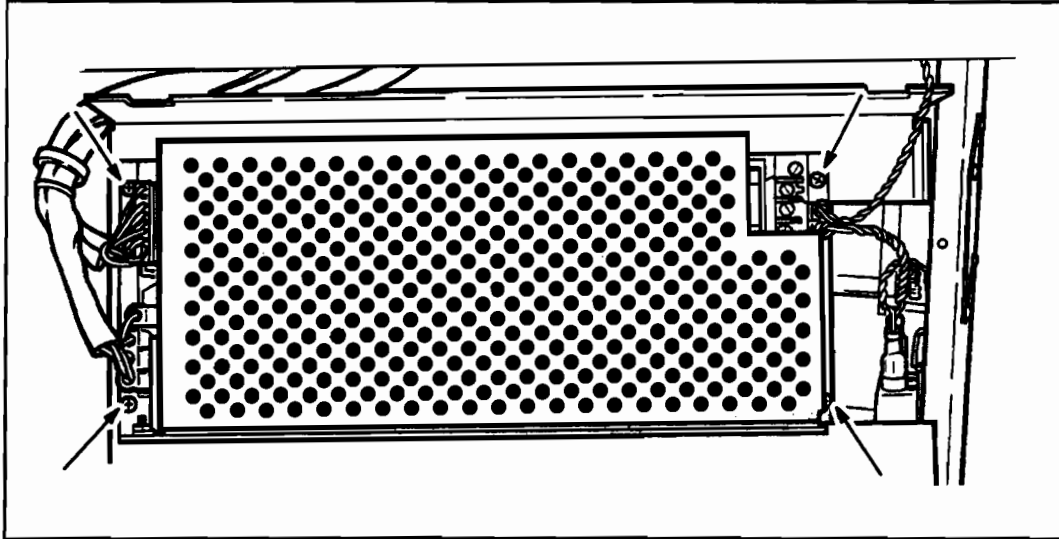

Figure 6-100. Power Supply Mounting Screws
7. Using a 2 pt. Pozidriv screwdriver, remove the four power supply screws. See Figure 6-100.